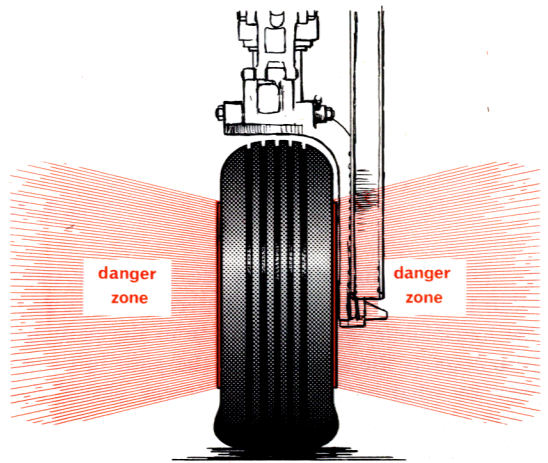

Fig. 4. Wheel Brake Hazard
9. **Brakes and chocks.** When in position for parking, the movement of the aircraft is restricted by the application of the brakes and by placing chocks in front of, and behind, the main landing gear wheels. Once the chocks are in position the pilot may be signalled to release the parking brake to allow the wheel braking mechanisms, which are inevitably made hot during landing, to cool down. Care is needed when approaching wheels whose brakes have been applied excessively and are, therefore, dangerously over-heated. The danger of fire and, possibly, explosion exists even after the aircraft has stopped because of the time required for the wheel structure to cool. In these circumstances, or whenever overheated brakes are suspected, it is advisable when approaching aircraft wheels to proceed carefully from a fore-and-aft direction only (Fig. 4).